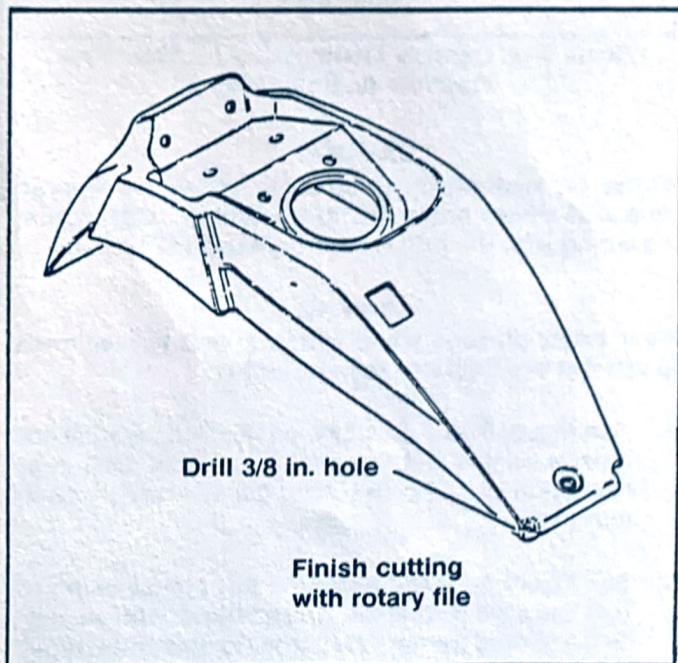

Figure 8-21. Modifying Left Rear Corner of Console
7. See Figure 8-21. Cut away the left corner using a drill and a 3/8 in. drill bit. Drill a hole as shown and finish cutting the left rear corner to match the right rear corner.